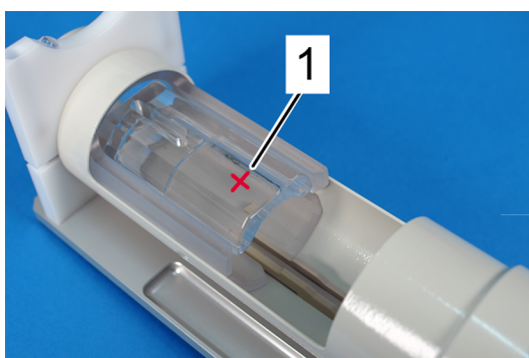

Figure 6.7: Rat Position Gauge for testing the correct position of the rat. The cross (1) marks the center of the coil system of the Coilhead.
The Rat Position Gauge ([Figure 6.7 \[p. 20\]](#)) simulates the real situation of placing an imaging setup underneath the Coilhead. It has two functions. For safety reasons it has to be used to check for any possible collision of the imaging setup (Animal bed with the animal and all accessories) and the Coilhead. Furthermore, it can be used to check for the correct position of the imaging setup in relation to the Coilhead and the movement of the lifting mechanism.
- The cross on the acrylic glass marks the centre of the coil system of the Coilhead as shown in [Figure 6.7 \[p. 20\]](#) (1). It can be used to check for the correct position of the subject to be imaged in relation to the Coilhead.